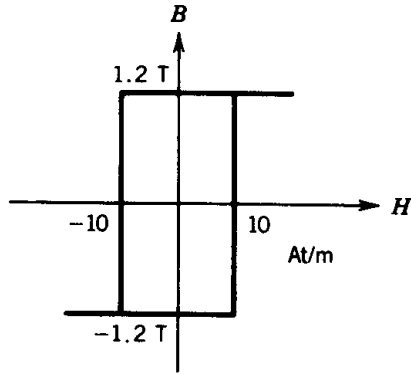

FIGURE P1.18
- 1.18 A toroidal core of mean length 15 cm and cross-sectional area 10 cm^2 has a uniformly distributed winding of 300 turns. The $B-H$ characteristic of the core can be assumed to be of rectangular form, as shown in Fig. P1.18. The coil is connected to a 100 V, 400 Hz supply. Determine the hysteresis loss in the core.